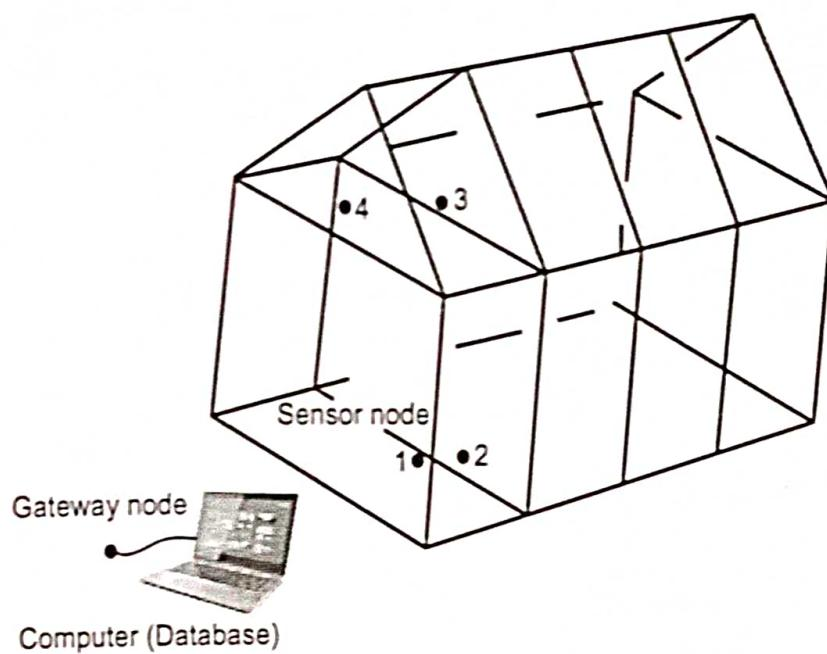

Fig. 7.5.1 Greenhouse with sensor
- Fig. 7.5.1 shows greenhouse with sensor.